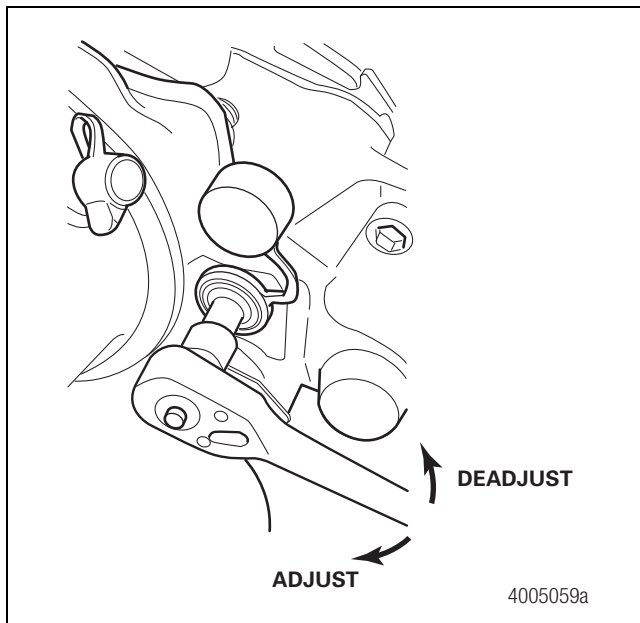

Figure 7.4
8. For disc brake wheel ends, back off the brake caliper until the rotor is clear from the pad linings about 1/16-inch (1.588 mm) gap or more. Refer to Maintenance Manual MM-0467, EX+™ Air Disc Brake, for more information about EX225 disc brake inspection and adjustment. To obtain this publication, refer to the Service Notes page on the front inside cover of this manual. Figure 7.4.